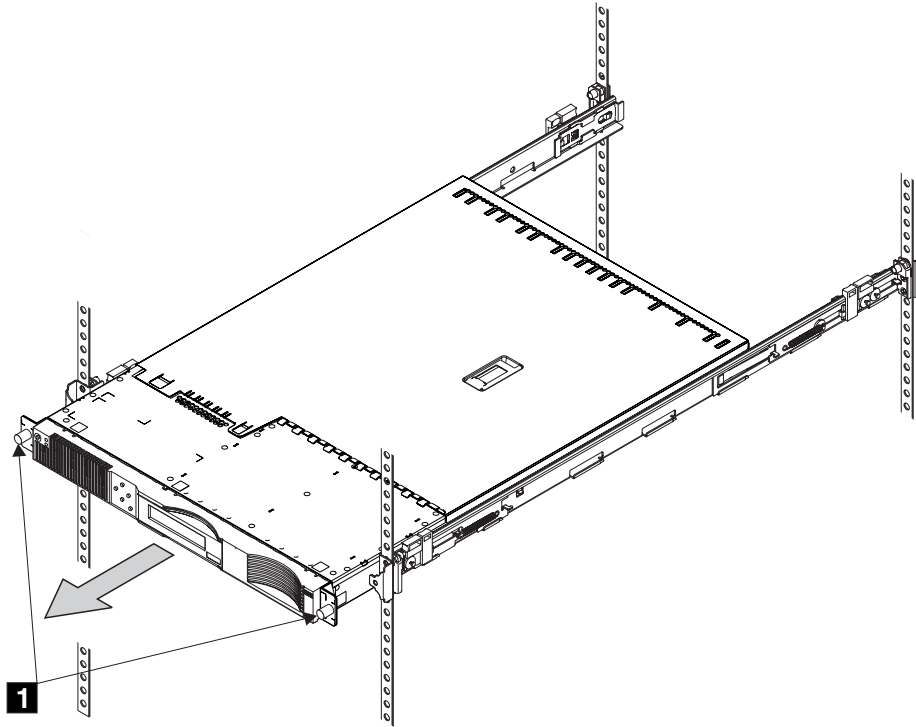

Figure 109. Loosening the front screws to remove the SAN Volume Controller 2145-4F2
1. Unscrew the two front screws (**1** in Figure 109 on page 442).